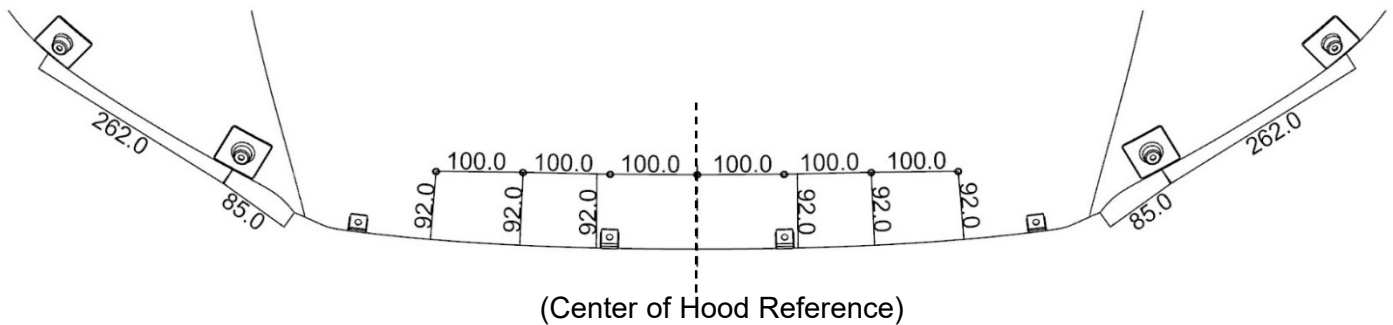

Fig 5
5. Install the (7) small bumpons in the locations shown. (Fig 5)